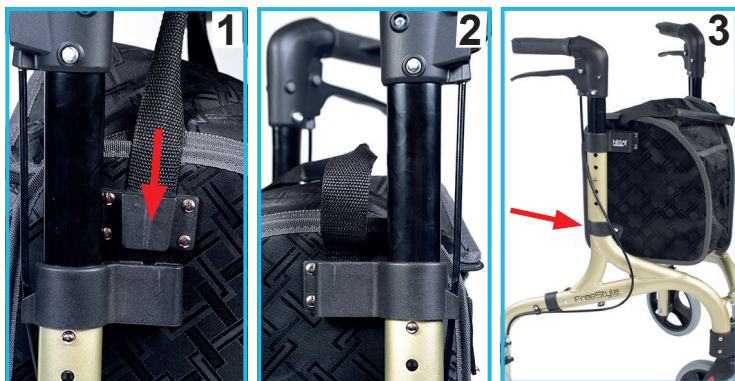

Figure 8: Fitting the Bag
1. Refer to Figure 8. Slot one of the 'T-brackets' on the side of the bag into the slot at the top of the main frame.
1. Refer to section 4.5 and Figure 8. Release the bag security strap, then remove the bag by lifting it up with the handle. The 'T-brackets' should slide free from the bag slots on both sides.